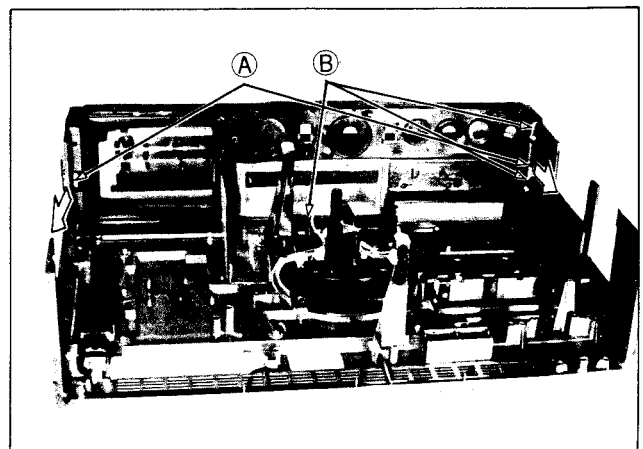

Fig. 10
Pull off the two plate springs marked (A) in Fig. 10 in the arrow-marked direction and remove the handle while expanding it.
Then unfasten the three screws marked (B) in Fig. 10 to remove the front panel.